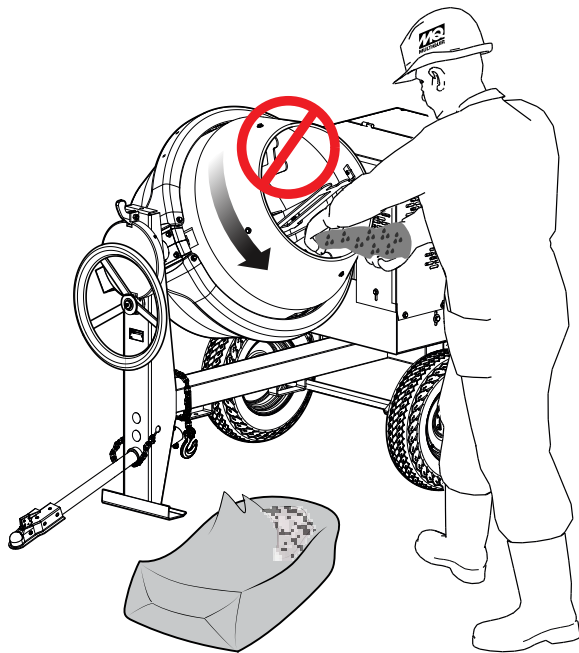

Figure 22. Filling Mixing Drum (WRONG)
- Placing the shovel all the way inside the drum (Figure 22) will cause the shovel to strike the blades. This condition will make the shovel rotate, and could cause injury to personnel. **NEVER** place hands inside the mixing drum while it is rotating.